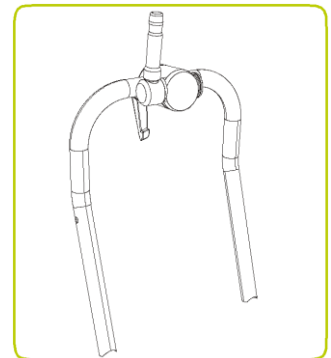

Figure 11.5: Installed pushrod
8. The clamp should look appear as shown in Figure 11.5.